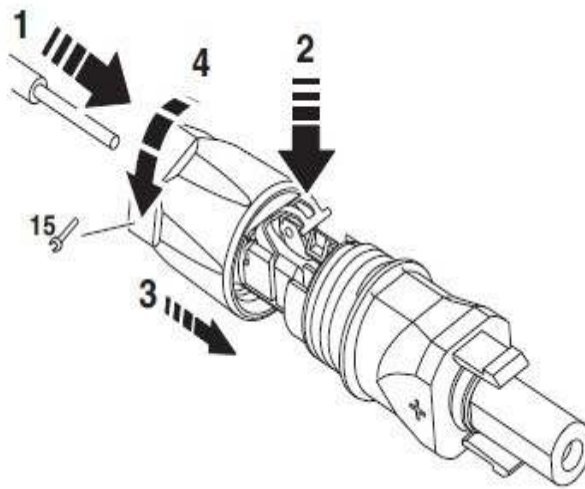

Figure 22
- 2. Close spring with the thumb or using combination pliers. Please ensure that the spring is closed. (see fig 22 procedure 1 and 2.)
- 3. Push connectors together. ( see fig 22 procedure 3) Screw cable gland tight(see fig 22 procedure 4). Screw in the nut until it reaches the O-ring and then tighten it with at least 2 Nm, using a suitable tool. Finished!